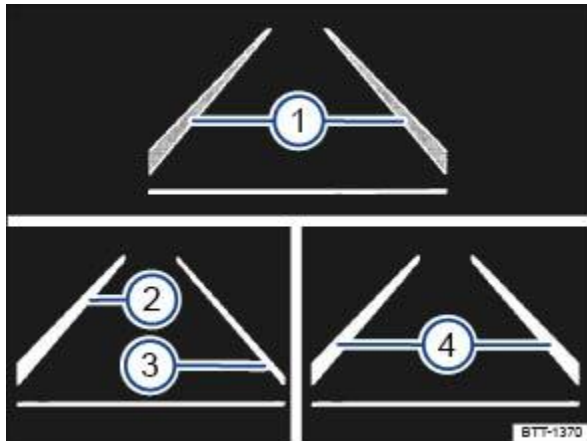

Fig. 123 On the instrument cluster display: lane keeping system displays.
Display areas in the instrument cluster display ⇒ Fig. 123 :
The system has detected a lane marking on both the right and left sides of the vehicle ⇒ Fig. 123 ① .
The system has detected a lane marking on both the right and left sides of the vehicle ⇒ Fig. 123 .